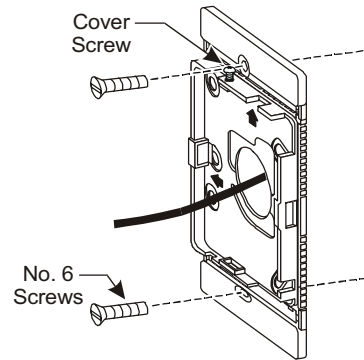

Figure 2: Wallbox Mounting
3. Fasten the base to the wallbox with the No. 6 screws provided. (See Figure 2.)